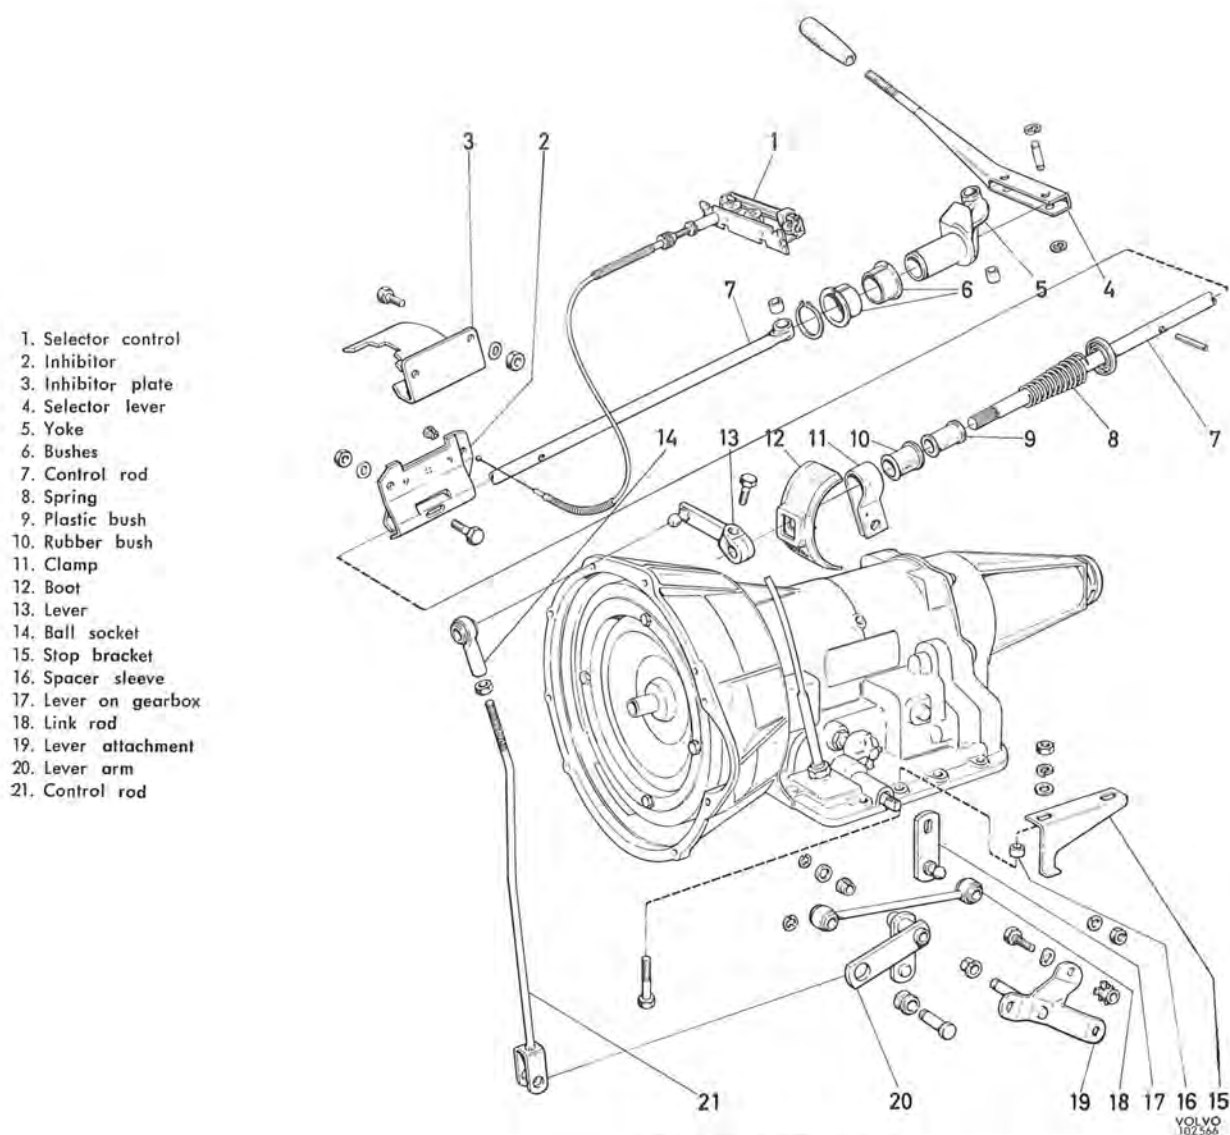

Fig. 4-121. Selector controls
1. Disconnect the control rod (21, Fig. 4-121) from the control lever (13) on the operating rod (7) and from the lever arm (20). Remove the link rod (18). Disconnect and remove the levers.
3. Remove the upper and lower casing halves over the direction indicator switch and steering wheel lock. Remove the bolts (early prod.) in the selector lever (4) and take out the lever. On late prod. units release the bolt in the control rod and remove the nut on the ball joint.
4. Remove the snap ring from the yoke (5) and the screw for the inhibitor plate (2). Pull up the control rod a bit and remove the lock pin for spring (8). Then pull up the control rod and remove the remaining parts.